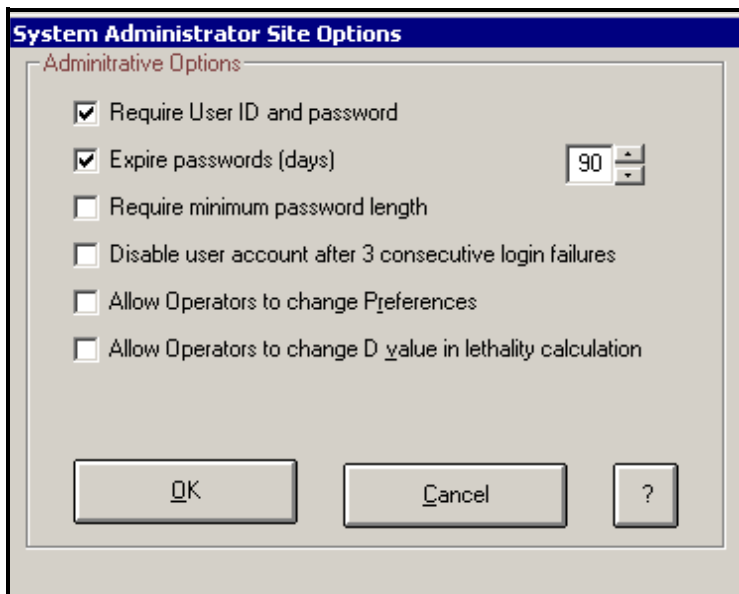

Figure 22: System Administrator Site Options Screen
1. On the Password Maintenance screen, click the **File** menu, and then click **Options**. The System Administrator Site Options screen (Figure 22 below) appears.